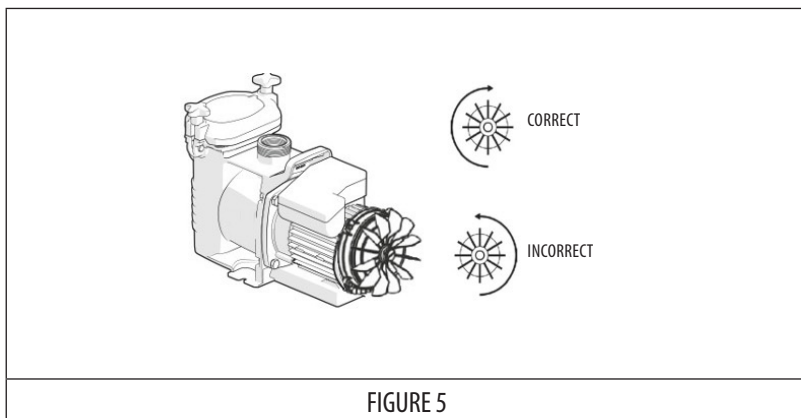

FIGURE 5
- Check that the motor is turning in the right direction (look at the fan located at the back of the motor). (See FIGURE 5)